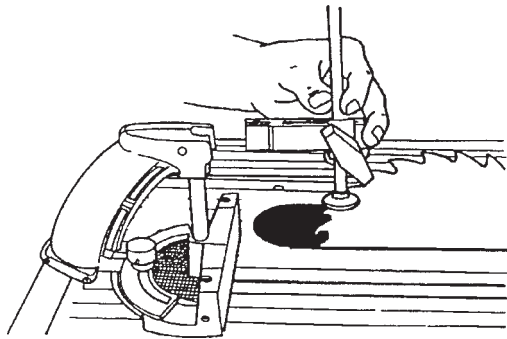

Figure B-73
42. Place the miter gauge in the right miter gauge slot, and use a 5/32" Allen wrench to remove the quick clamp from the safety grip, as shown in Figure B-73 (Figure B-72 intentionally skipped).